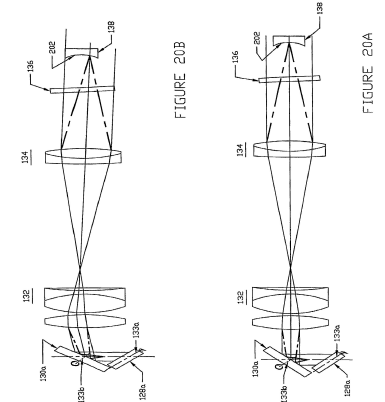

Figure 6 & 7: *Two ways William Fox focused light*
- Figure 6:"US10555674B2 - Confocal scanning microscope having optical and scanning systems which provide a handheld imaging head - Google Patents", *Patents.google.com*, 2020. [Online]. Available: <https://patents.google.com/patent/US10555674B2/en?q=confocal+microscopes&oq=confocal+microscopes>. [Accessed: 01- Oct- 2020].